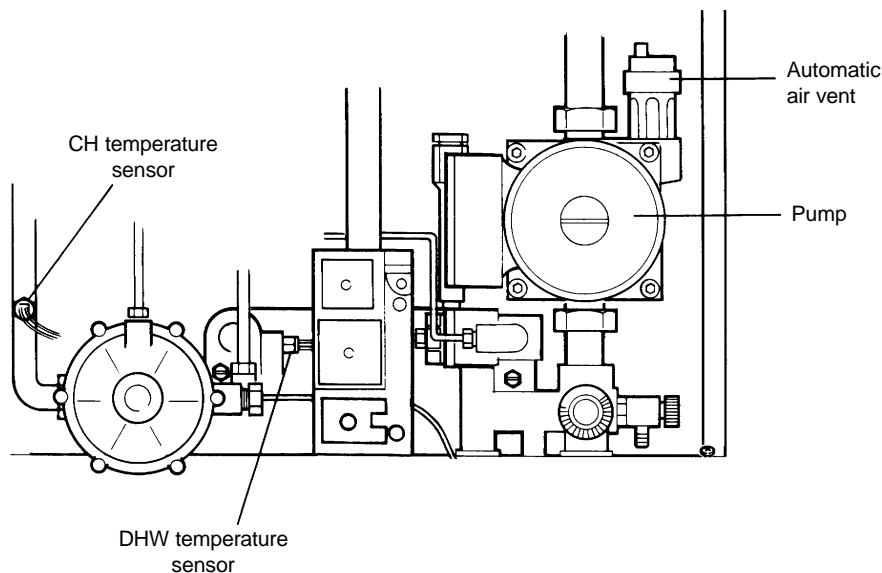

Fig. 33
8.29 TEMPERATURE SENSORS - Fig. 33
8.30 AUTOMATIC AIR VENT - Fig. 33
8.31 PUMP - Refer to Fig. 33